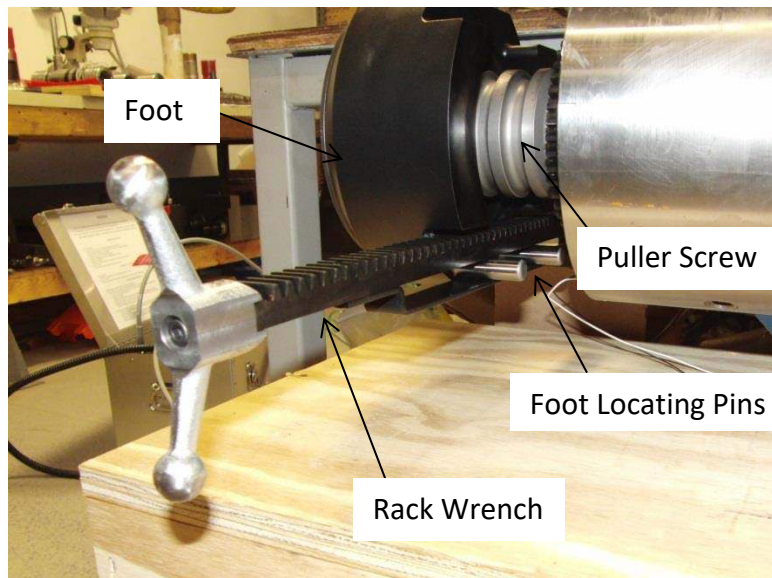

Figure 8C – 6 O'clock Position Rack Wrench on Foot for Tensioner HT-5425, HT-7979, and HT-8133
6. **For turbine end 6 o'clock position, slide rack wrench over locating pins of the foot and orientate rack wrench as needed for rotation of the spur gear spanner. (Figure 8C)**